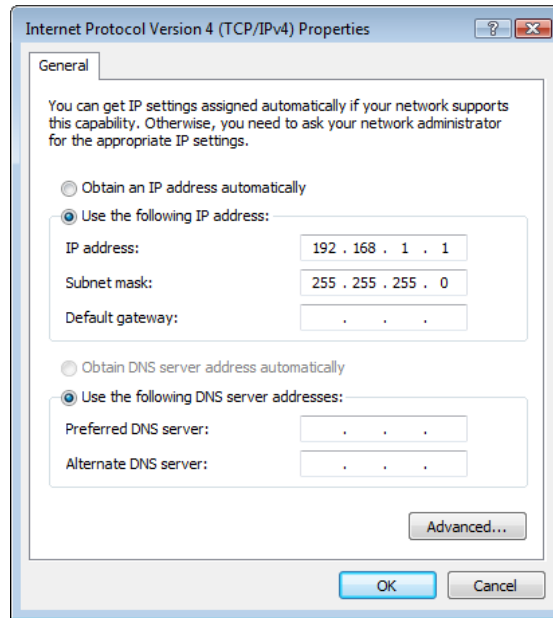

Fig. A-3: Set Host IP address and subnet mask as shown
4. When the **Internet Protocol (TCP/IPv4) Properties** dialog box appears (see **Figure A-3**), enter the IP address and Subnet mask as shown in **Figure A-3**.